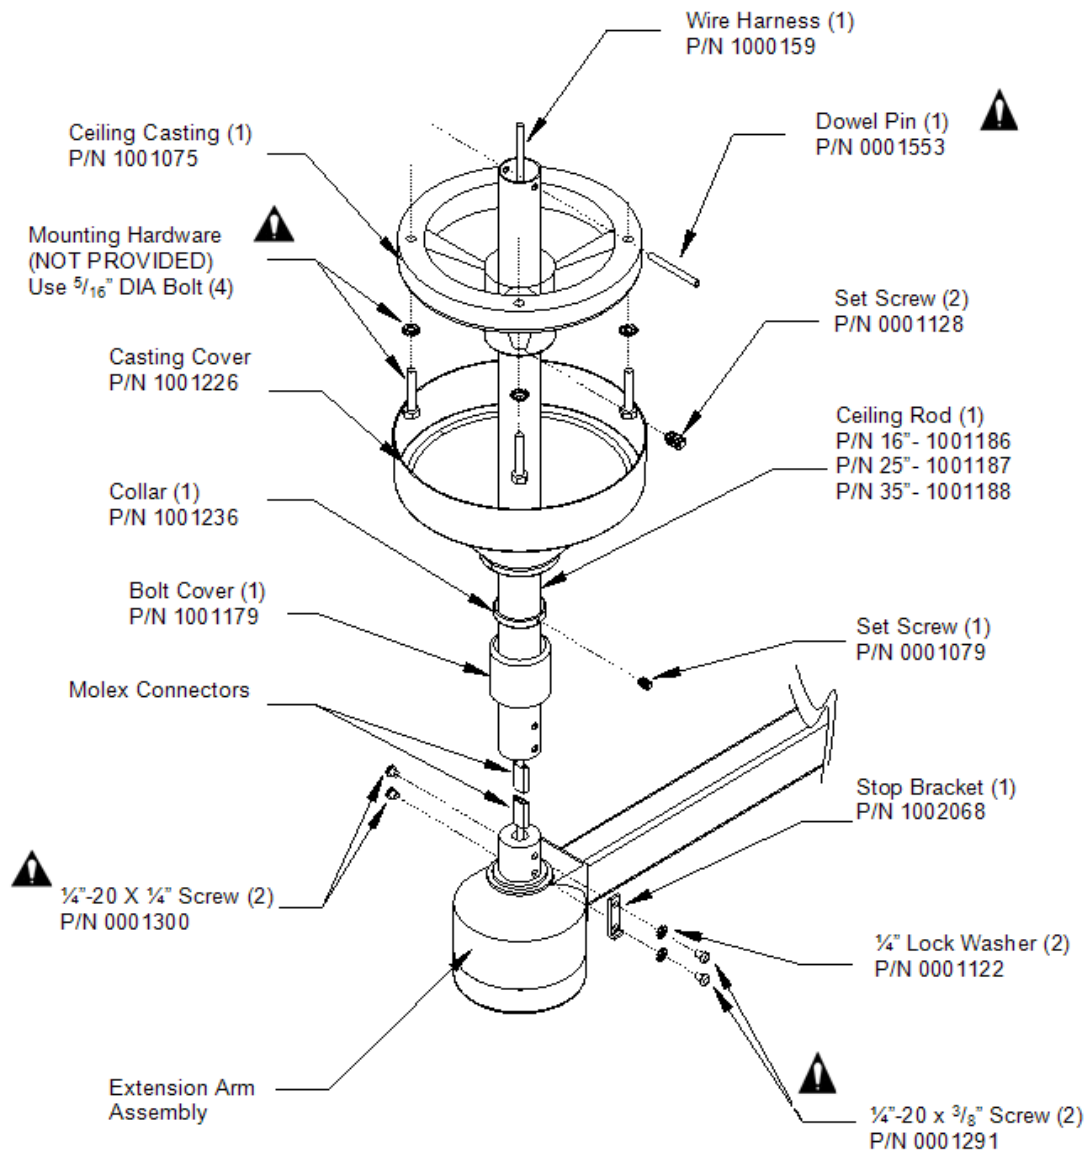

Figure 7: Single Ceiling Mount Installation
- Insert the ceiling rod up through the ceiling casting until the hole in the ceiling rod becomes visible (see **Figure 7: "Single Ceiling Mount Installation"**). Insert the dowel pin into the hole in the ceiling rod and lower the rod in the ceiling casting, making sure the pin is seated securely in the indentation on the ceiling casting. Securely tighten the two set-screws located in the casting.
- Slide the bolt cover up onto the ceiling rod as shown in Figure 7, then raise the extension arm to the ceiling rod and plug the Molex connectors together. Push the wire into the ceiling rod while inserting the bushing on the extension arm assembly into the rod. Secure the assembly to the ceiling rod using the four supplied bolts as shown. Two 1/4-20 x 1/4" screws must be installed on one side of the ceiling rod. Two 1/4-20 x 3/8" screws and lock washers must be used to mount the stop bracket on the other side of the rod. Be sure the bend on the stop faces down, towards the arm.